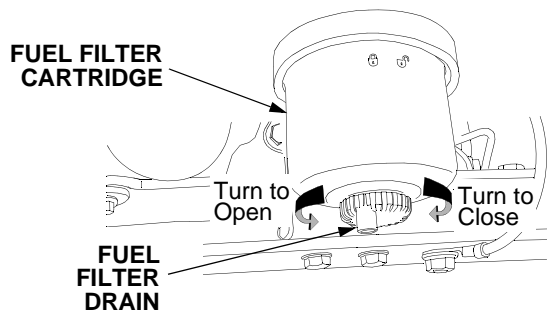

Figure 56
Drain the filter as needed, or after every 100 hours of operation (Refer to Figure 56).
- Stop the engine and place a suitable container beneath the filter drain valve. See Figure 56.
- Turn the filter drain counterclockwise to open. Allow the water at the bottom of the filter to drain until only pure diesel fuel drains from the valve. See Figure 56.
- Turn the filter drain clockwise to close. Refer to Figure 56.